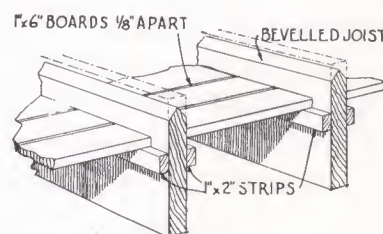

FIGURE 90
- (a) Where tile floors are to be laid, the floor joists are to be beveled off and a rough floor laid on 1"x2" strips nailed in between joists (see Figure 90).